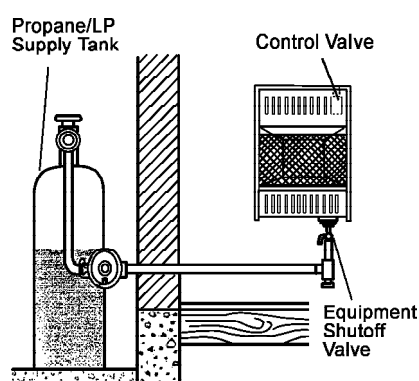

Figure 16-Checking Gas Joints
3. Check all joints from gas meter to equipment shutoff valve (see Figure 16). Apply mixture of liquid soap and water to gas joints. Bubbles forming show a leak.
4. Check all joints from equipment shutoff valve to control valve (see Figure 16). Apply mixture of liquid soap and water to gas joints. Bubbles forming show a leak.